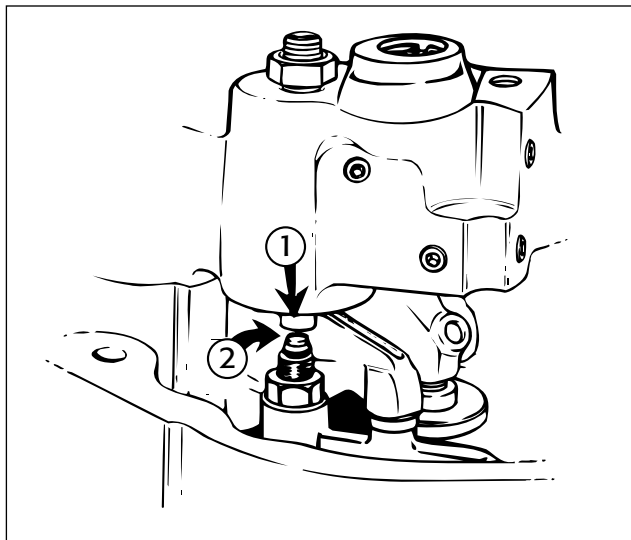

FIG. 13
Be sure the slave piston foot (1) is aligned squarely over the bridge screw and pin assembly (2) to insure full contact of exhaust valve stem. Reposition the housing if necessary (see Fig. 13).